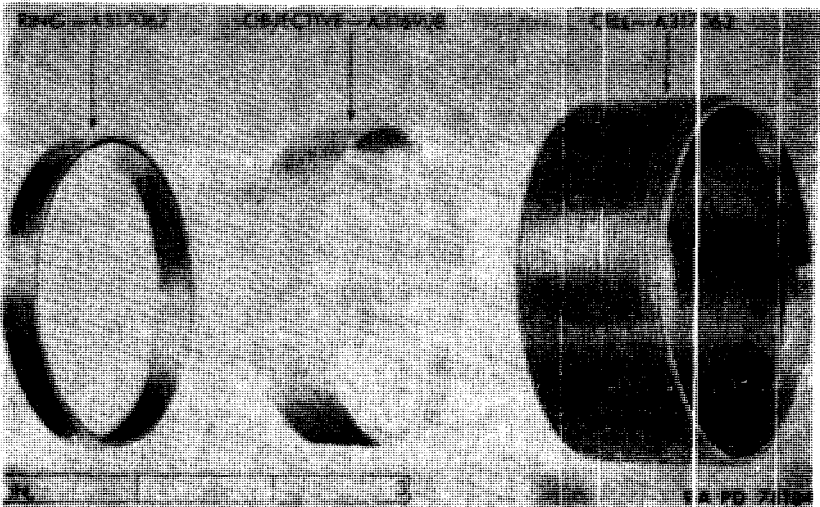

Figure 19-Observation Telescope M49-Objective Assembly B180756 Disassembled
(3) Remove the retaining ring A317062 (fig. 19) from the objective assembly. Place a piece of lens tissue paper on both sides of